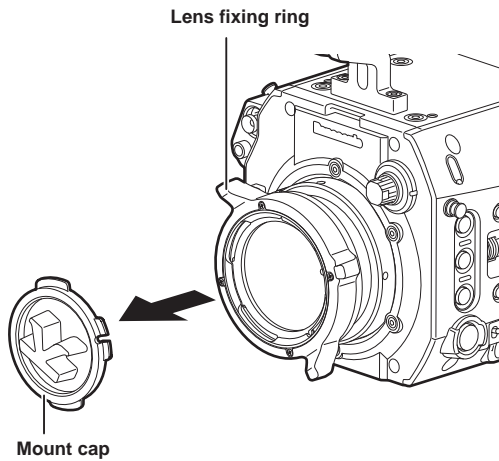

Fig. 1
**5** Fix the two mounting screws. (Fig. 1)
- 1 Turn the lens fixing ring and remove the mount cap. (Fig. 1)